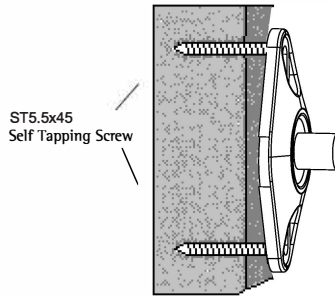

Figure 7
- NOTE: In wall mounting applications, position mounting holes in a vertical pattern (Figure 7).
3. Drill holes through the drywall and into the wood stud using a 1/8" drill bit. These holes should be drilled 1-7/8" deep (Figure 7).